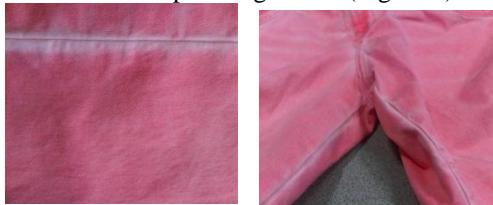

Figure 5. Garments dyed with Direct Dyes
- At garment dyeing direct dyes is used for producing seamline effect/pukering effect. (Figure 5)